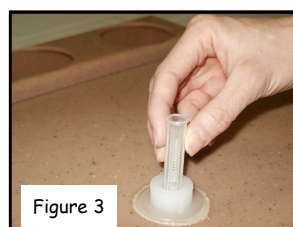
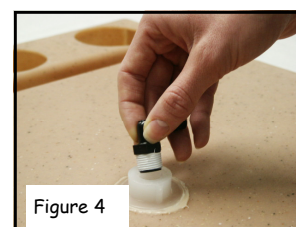
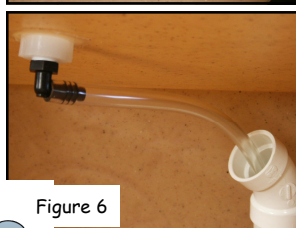

Figure 3
Figure 4
Figure 6
3. **Assemble Top.** (figure 3) With the Top upside down, push the basket strainer into the white welded fitting. (NOTE: If you are going to use the optional planter tray, DO NOT install the basket strainer. All other instructions remain the same.) Now, (figure 4) into the exact same fitting you used to install the basket strainer, install the 3/8" male pipe-threaded end of the Elbow Drain Fitting. Carefully snug the Elbow so that it is pointing toward the Internal Overflow. Finally, (figure 5) push the tubing over the barbed side of the Drain Fitting. After placing the remaining end of the tubing into the Internal Overflow (figure 6), set the top into place on the Main Body.